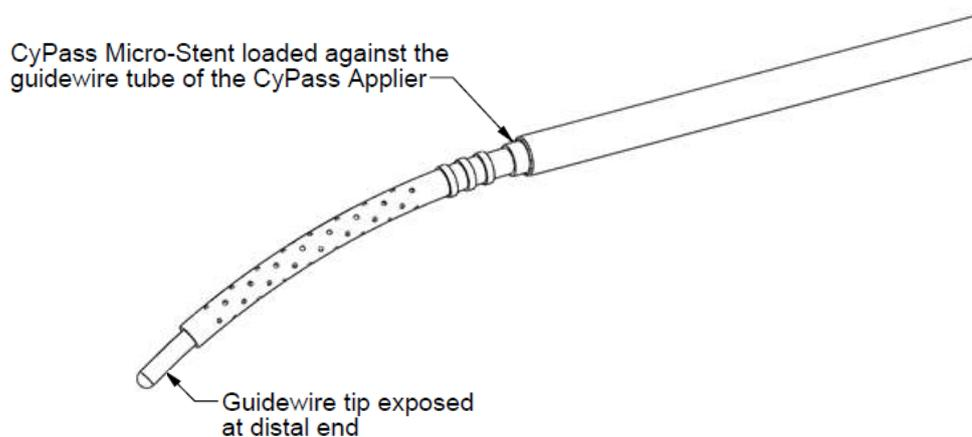

Figure 4: CyPass® Micro-Stent loaded onto CyPass® applier guidewire
The CyPass® Micro-Stent is loaded onto the guidewire before insertion into the eye (Figure 4). Once the guidewire has positioned the CyPass® Micro-Stent at the desired location within the eye, the implant is released from the guidewire using the front button on the CyPass® applicator. This action withdraws the guidewire back into the guidewire tube, leaving the CyPass® Micro-Stent in position in the eye.
10. Examine the assembly. Confirm the condition of the CyPass® Micro-Stent and that the guidewire is fully exposed at the distal end (Figure 4). If either the CyPass® Micro-Stent or the CyPass® applier guidewire is damaged, **DO NOT USE** and contact Alcon.